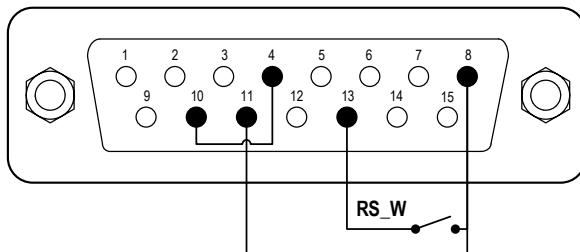
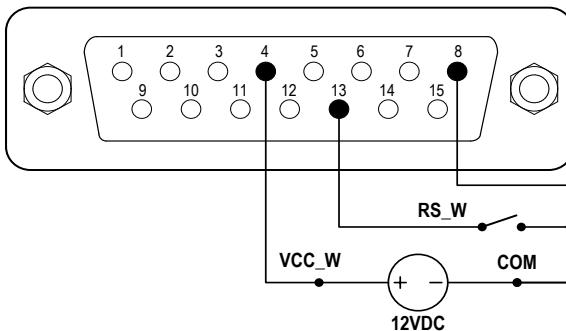

Figure 19. Logic Level 1 Control with Internal 12V Power Source
Figure 20. Logic Level 1 Control with External 12V Power Source
- 1) Switch the power off. Wire the DB15 connector as shown on *Figure 19* or *Figure 20*, and connect it to the DB15 port on the rear of the pump.